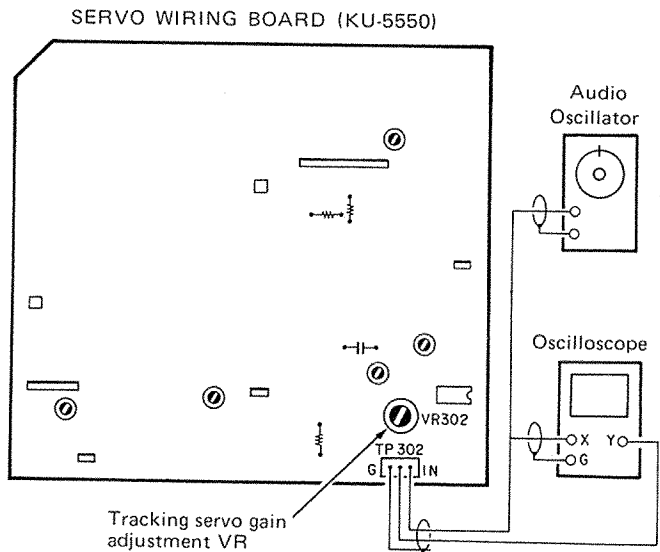

Fig. 29
**(Turn on switches 3 to 8.) (Fig. 29)**
- (1) Connect the oscilloscope (X and Y inputs – Lissajous mode) to Pins ① and ⑤ of TP302 on the servo wiring board. (Pin ③ is GND)
- (2) Connect the audio oscillator to Pin ① of TP302 and apply 1.89 kHz, 0.2 Vp-p sine wave.
- (3) Adjust VR302 so that the Lissajous display becomes symmetrical in respect to both X and Y axis.